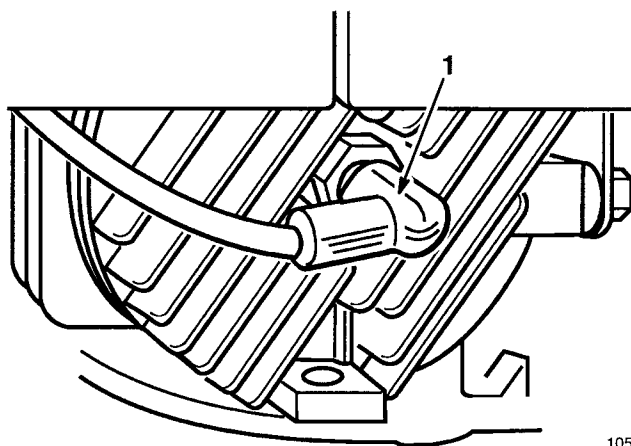

Figure 22
3. Install spark plug by hand, then torque to 180 in.-lbs. (15 ft.-lbs.) (20 N·m) (Fig. 22).
4. Reconnect spark plug wire when maintenance is completed (Fig. 22).
1. Disconnect spark plug wire (Fig. 22).
**Note:** Blade nut must be replaced after installing and removing four (4) times. Locking feature will decrease and nut could loosen if not replaced.
5. Connect spark plug wire when maintenance is completed (Fig. 22).